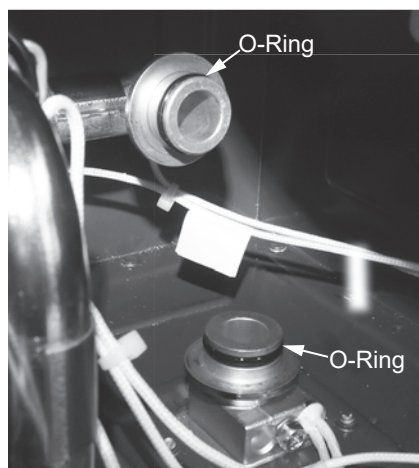

Figure 219 - Locating the O-rings
19 Locate the two (2) O-rings on the exposed water pipe connections as shown in Figure 6 and remove them and install the new O-rings. Dispose of the old O-rings properly. See Figure 219.